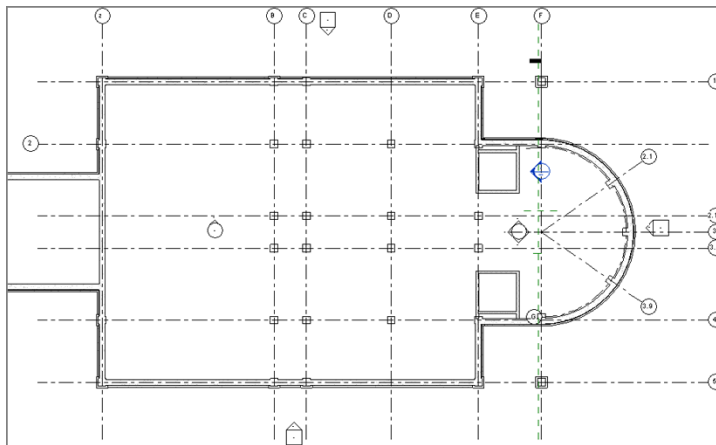

FIGURE 8.69: The completed foundation
16. Your foundation plan should resemble Figure 8.69.